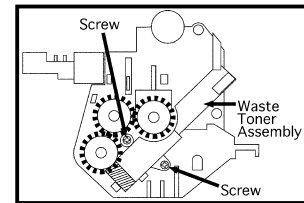

Figure 2
2. Carefully remove waste toner assembly from cartridge (2 screws - Fig. 2).